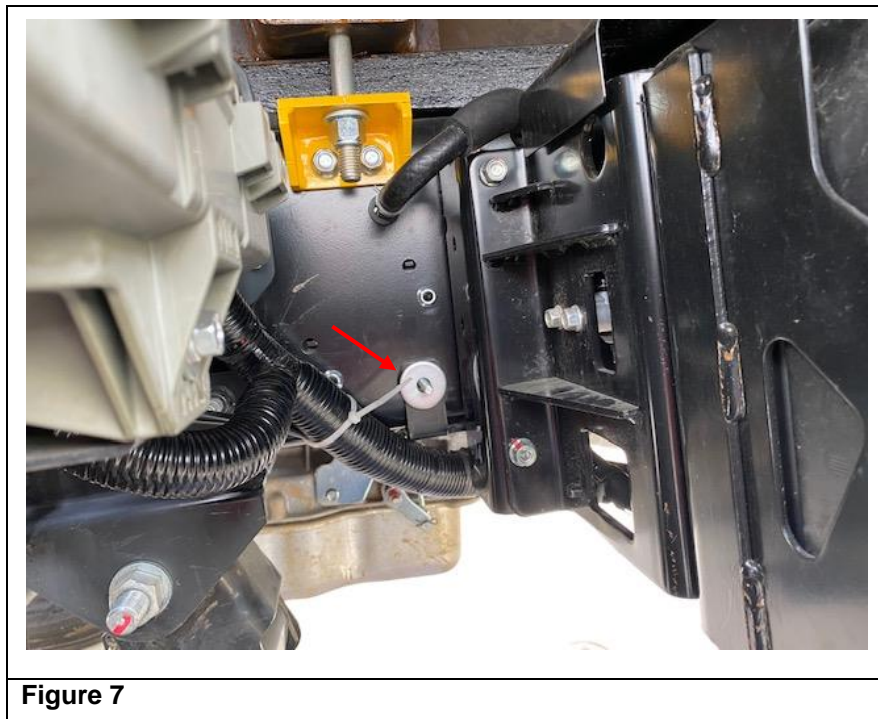

Figure 5
7. Firmly push or pull upwards on the harness while squeezing the Upper Clamp together in order to slip the outer hole of the clamp over the bolt. Turn a nut onto the bolt several turns by hand to hold clamp in place. (See Figure 5.)